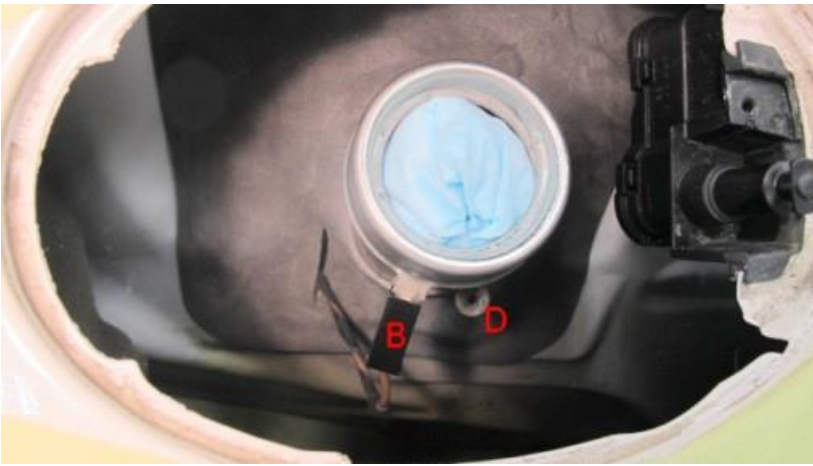

Figure 3
6. Refit earth wire (B) at fuel filler neck (see Figure 3)
7. Refit fuel filler bowl ensuring fuel filler drain tube (D) is reconnected to the fuel filler bowl